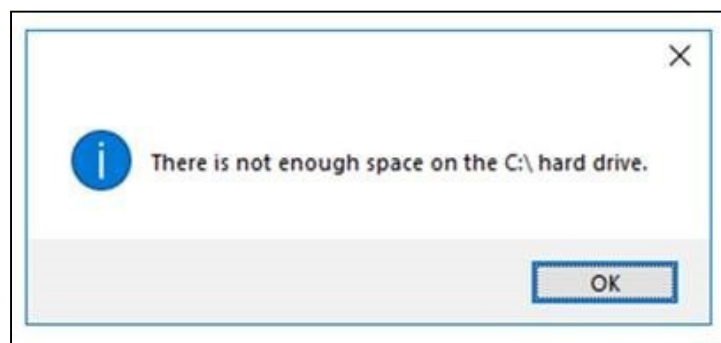

Figure 5
- o If, while attempting to download the update-software to the CONSULT PC Station, you receive the message shown in Figure 5: